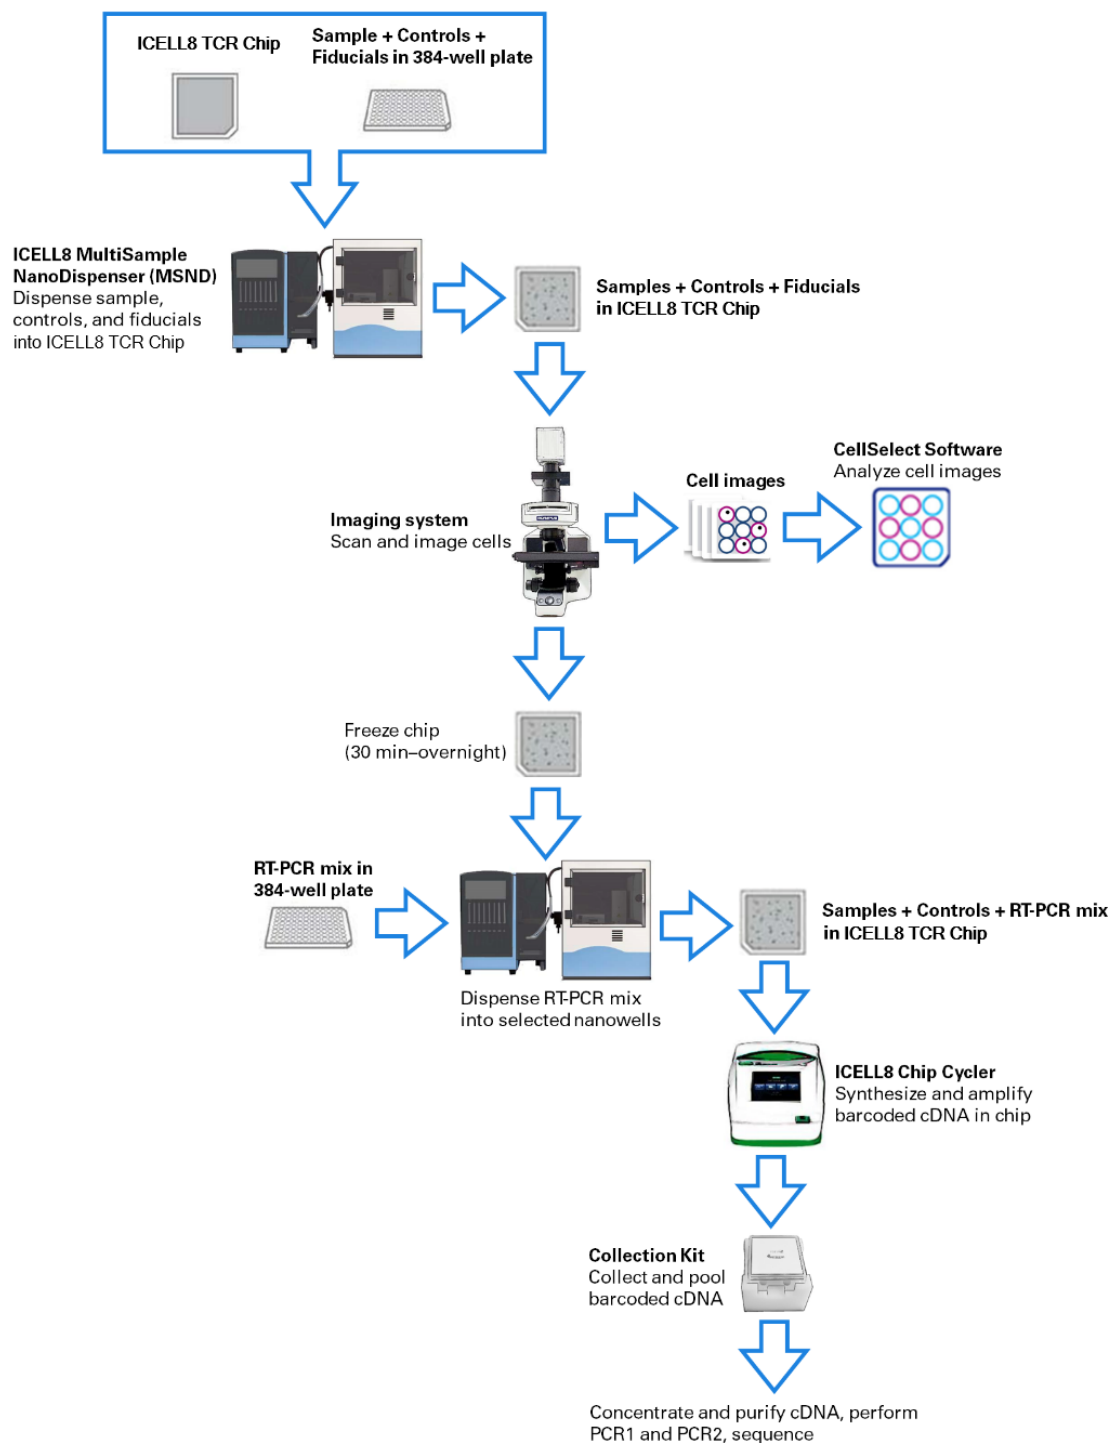

Figure 1. Diagram for the ICCELL8 Human TCR a/b Profiling workflow.
The workflow (Figure 1, below) begins with staining and dilution of cell samples and the preparation of positive and negative controls, followed by the dispensing of the cells and controls using the ICELL8 MultiSample NanoDispenser (MSND) into the wells of a 5,184-nanowell ICELL8 TCR Chip. A total of 1,728 unique barcoded oligos are preprinted in nanowells of each chip, and each barcode is printed three times on a chip. As many as eight different samples can be analyzed in a single run, and the dispensing process is completed in approximately 15 minutes. During this time, cells are maintained in the humidity- and temperature-controlled environment provided by the ICELL8 MSND.
Following the freezing of the ICELL8 TCR Chip, the chip is returned to the ICELL8 MSND and RT-PCR reagents are distributed to nanowells selected by the software. The ICELL8 TCR chip is then transferred to the ICELL8 Chip Cycler, which is programmed to perform first-strand synthesis and amplification of cDNA in a single run. During this process (Figure 1, below), first-strand cDNA synthesis is dT-primed (oligo dT amp primer) and performed by the MMLV-derived SMARTScribe™ Reverse Transcriptase (RT), which adds nontemplated nucleotides upon reaching the 5' end of each mRNA template. The 5' SMART barcoded primer, preprinted into each nanowell of the ICELL8 TCR Chip, anneal to these nontemplated nucleotides and with template-switching technology adds an adapter and nanowell-specific barcode to the 5' ends of full-length cDNAs. The added adapter then serves as a priming site during the PCR amplification portion of the program, allowing for unbiased amplification of full-length cDNA. The barcoded cDNAs from each nanowell are pooled, concentrated, and purified off-chip using AMPure XP beads. The purified cDNA can also be used for generating Illumina